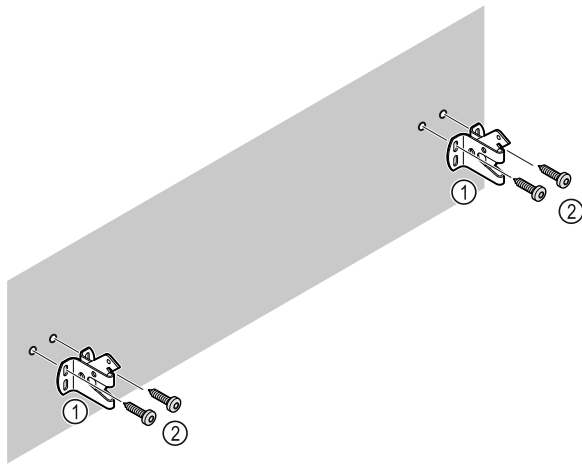

Fig. 10
Use fixing material (e.g. wall anchors) which is appropriate for the nature of the wall (wood, concrete) and sufficient attachment points Fig. 10 (2).
- Attach retaining hooks. Fig. 10 (1)